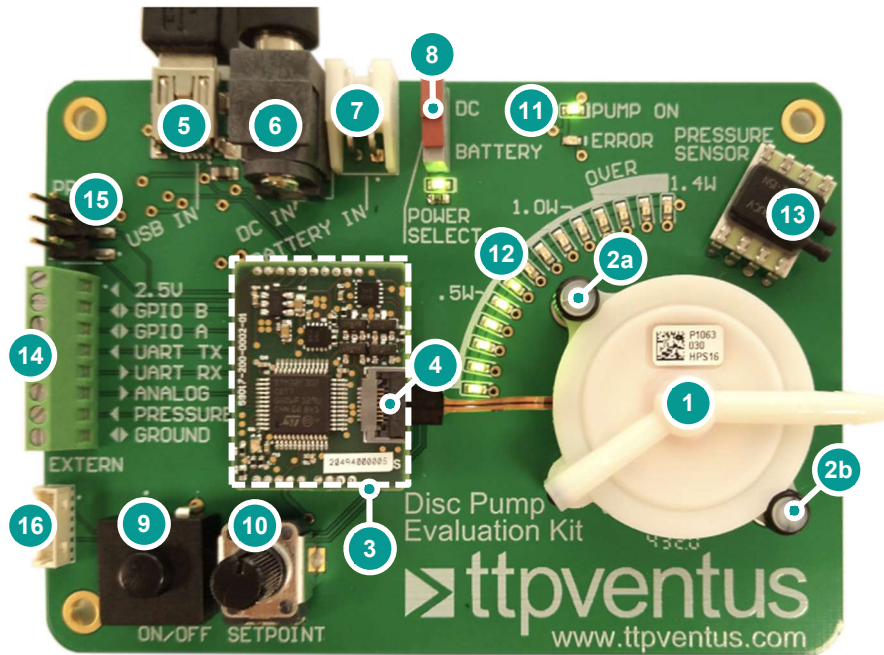

Figure 3: Evaluation Kit Motherboard
Disc Pump must be driven with an AC drive signal at a frequency optimised to suit each pump and its operating conditions. The postage-stamp sized drive PCB is responsible for generating the necessary drive signal. The pump and drive PCB are mounted onto a motherboard (Figure 3). The motherboard provides a range of convenient and easy-to-use connections, user interface elements and functionality detailed in Table 2.
- Turn pump on/off with the ON/OFF switch (Figure 3 - 8).
- Adjust pump power with the SETPOINT dial control (Figure 3 - 10).